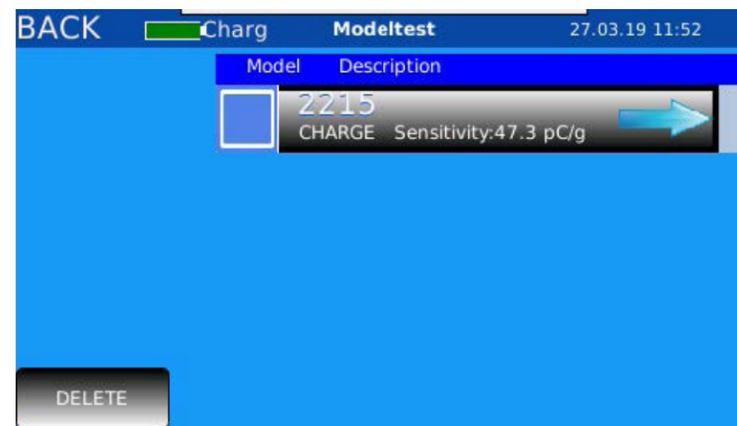

Figure 84. Select the imported sensor
9. Imported sensors belonging to the category and manufacturer selected will appear. Select the check box to the left of a sensor to choose it for testing (Figure 84).